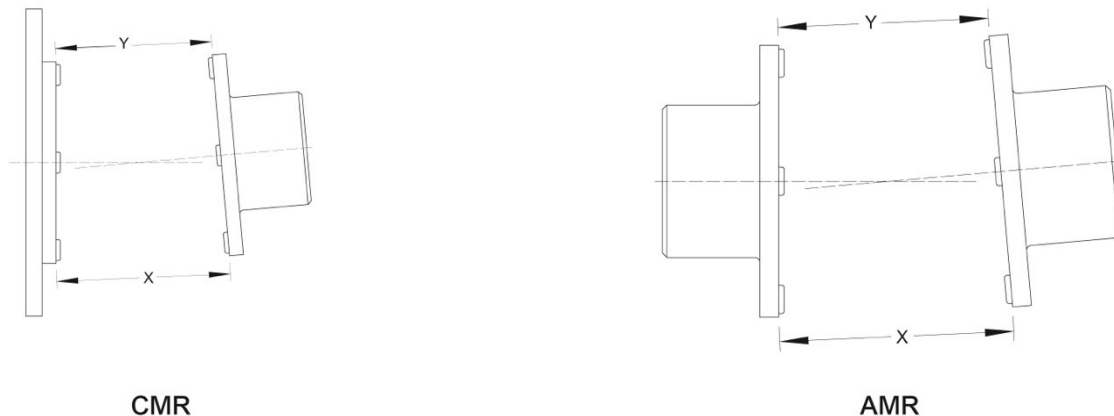

Figure 8 – Angular Misalignment “X-Y”
- 9.7. The “Angular Misalignment” value is the maximum difference between the measurements X and Y taken at opposite ends of the hub flanges, as shown in Figure 8.